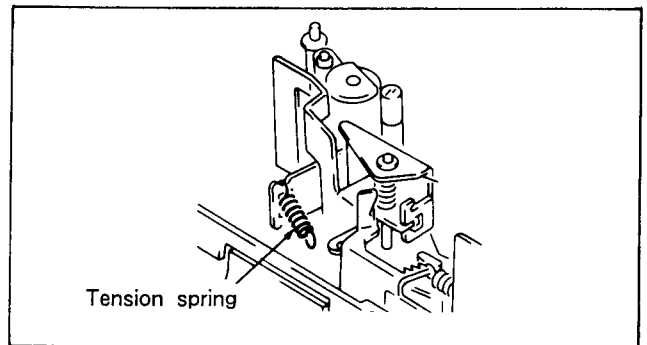
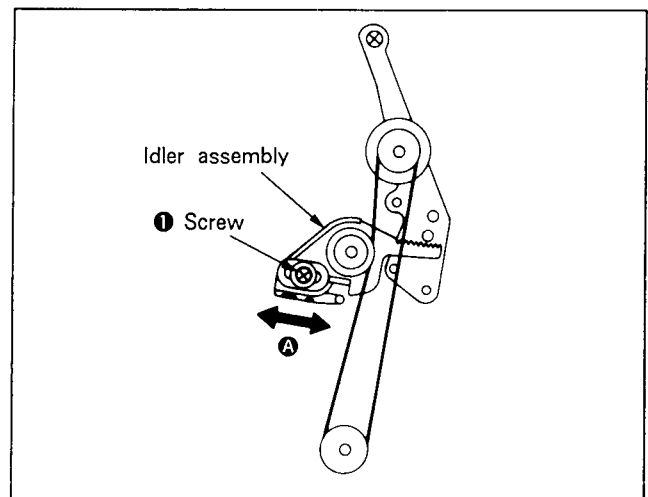

Fig. 7-56.
Fig. 7-57.
- 3) Remove the pinch press arm side (round hook) of the tension spring attached to the pinch press arm assembly. (See Fig. 7-56.)
- i ) Loosen screw ❶ and slide the idler assembly in the direction of arrow A, then tighten with screw ❶. (See Fig. 7-57.)
- 11) Remove the short between TP101 on the MA-25 board and Pin ⑤ of CN324.
- 12) Mount the drive gear B assembly and pinch press arm assembly tension spring. (See Fig. 7-56.)